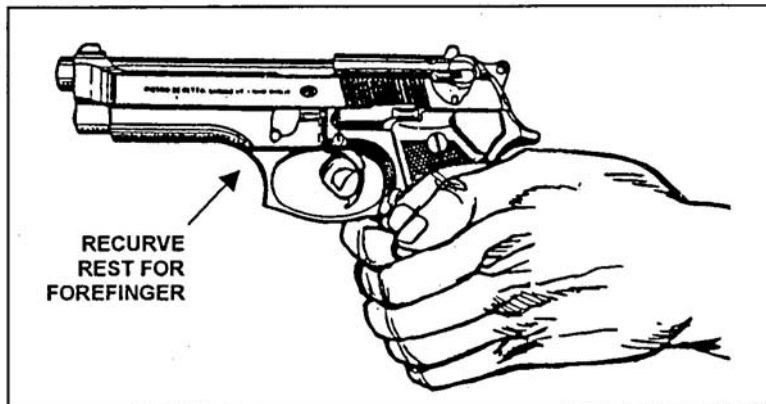

Figure 3. Fist grip.
b. Unsupported grips. You may use any of three nonfiring hand grips to support your firing hand (Figures 3, 4, and 5).
- (1) Fist grip (Figure 3). Begin by gripping the weapon as previously described. Firmly close the fingers of your nonfiring hand over the fingers of your firing hand. Make sure the index finger of your nonfiring hand is between the middle finger of your firing hand and the guard. Place your nonfiring thumb beside your firing thumb.